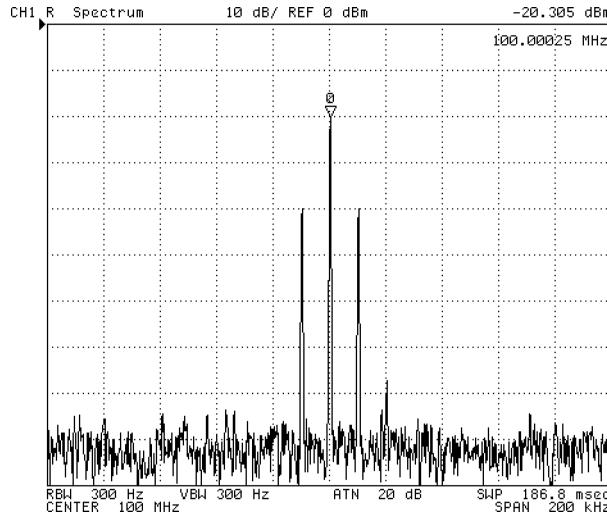

Figure 10-17. Carrier Amplitude and Frequency of AM Signal
2. Press MAX to search for the carrier signal. The carrier amplitude and frequency are displayed in the upper right corner as shown in Figure 10-17.